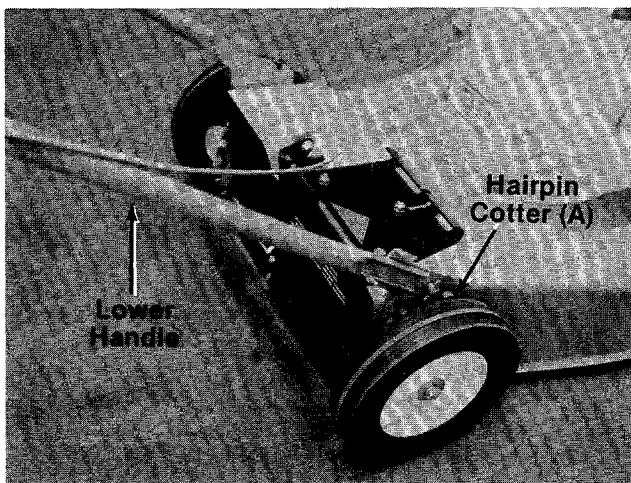

FIGURE 3.
- F (1) Hex Center Lock Nut 1/4-20 Thd.
- G (2) Cable Ties
- H (1) Ferrule Locking Ring
- I (7) Truss Head Bolts 3/8" Long
- J (7) External Lock Washers
- ← K (7) Hex Nuts #10-24 Thread
- L (2) Cotter Pins
- M (2) Tubing Connectors
3. Fasten lower handle in position over weld pins in handle mount brackets on deck. The hole for the engagement rod in the lower handle must be on the **left** side of the unit. Secure with hairpin cotters (A) in inner hole on weld pin. See figure 3.